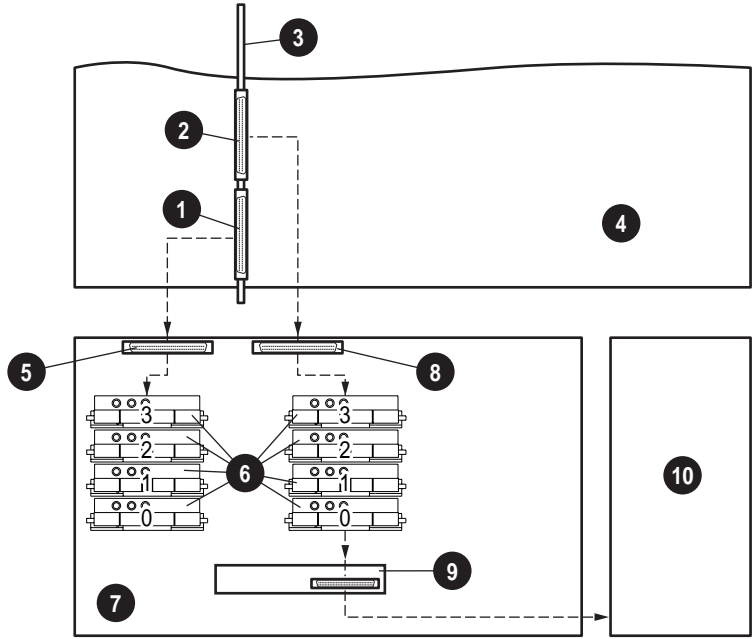

Figure 7-13. Example 1: Configuration diagram
2. Connect 19-inch point-to-point non-terminated SCSI cable (199606-007), from the SCSI Port 1 to SCSI Input 0 of the duplex board. Connect another 19-inch point-to-point non-terminated SCSI cable (199606-007) from SCSI Port 2 to SCSI Input 1 of the duplex board. These connections are shown in Figures 7-13 and 7-14.